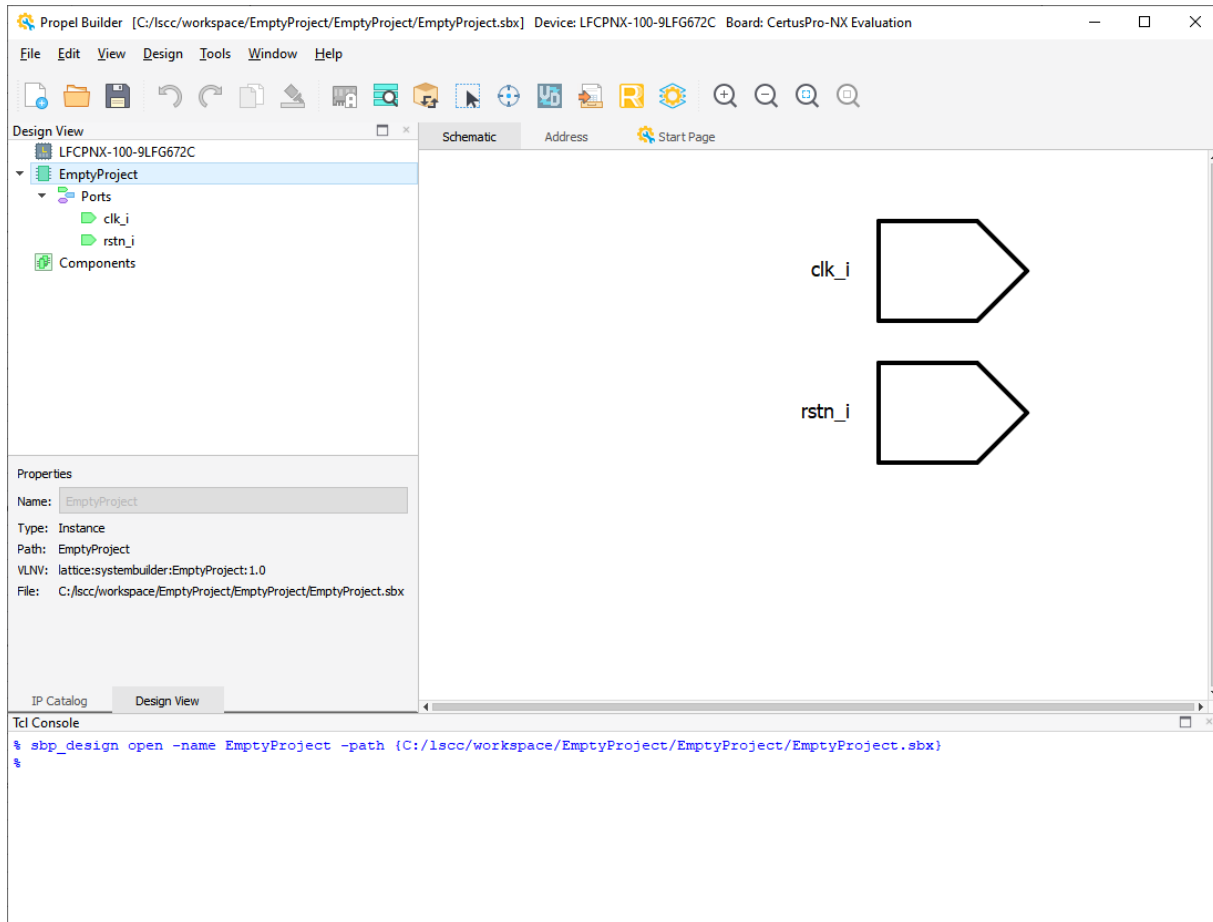

Figure 2.8. Propel Builder GUI Shows Empty Project
10. Click **Finish**. Propel Builder GUI opens (Figure 2.8).